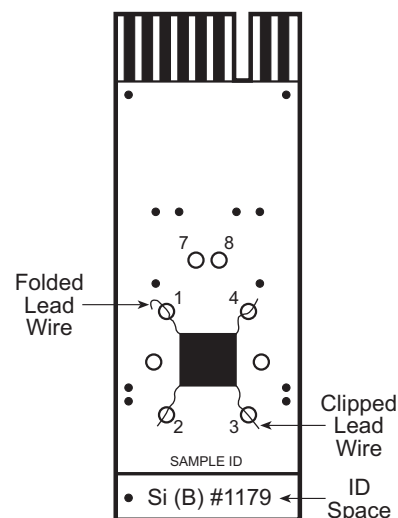

Figure 4-10. Sample Card with Mounted van der Pauw Sample and Leads.
To complete the mounting procedure, solder the other end of the lead (the end not soldered to the sample) to a contact on the sample mounting card. See Figure 4-10 or 4-11 for sample mounting card contacts.
3. Clip or fold excess wire. See Figure 4-10.